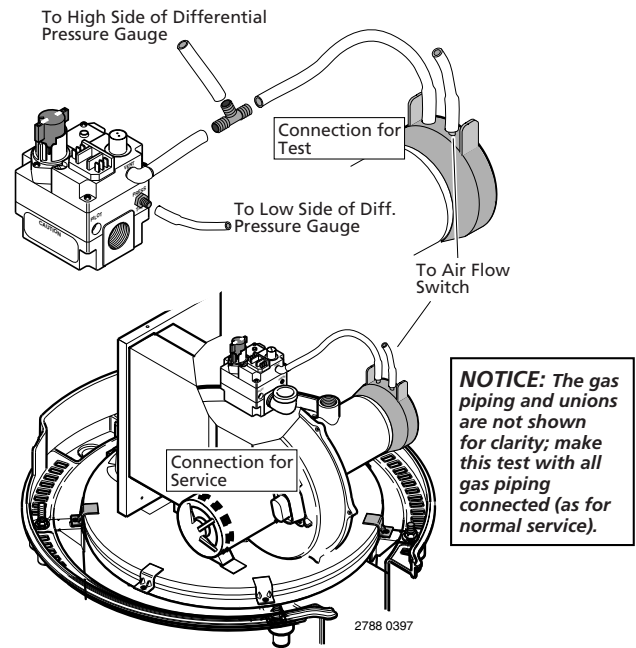

FIGURE 21: Connect Gas Valve to End Cap Air Orifice
The combination gas valve incorporates dual shut-off valves and a negative-pressure regulator. For proper operation, the regulated pressure at the outlet manifold of the valve must be  $0.2$ " wc below the reference pressure at the blower mixer inlet, and the gas valve 'VENT' tap must be connected to the endcap air orifice as shown in Figure 21 (above).
4. Disconnect the tube from the Gas Valve 'VENT' port. Connect it to a tube with a tee running to the high side of a differential pressure gauge and to the blower's air orifice grille (See Figure 21, above).